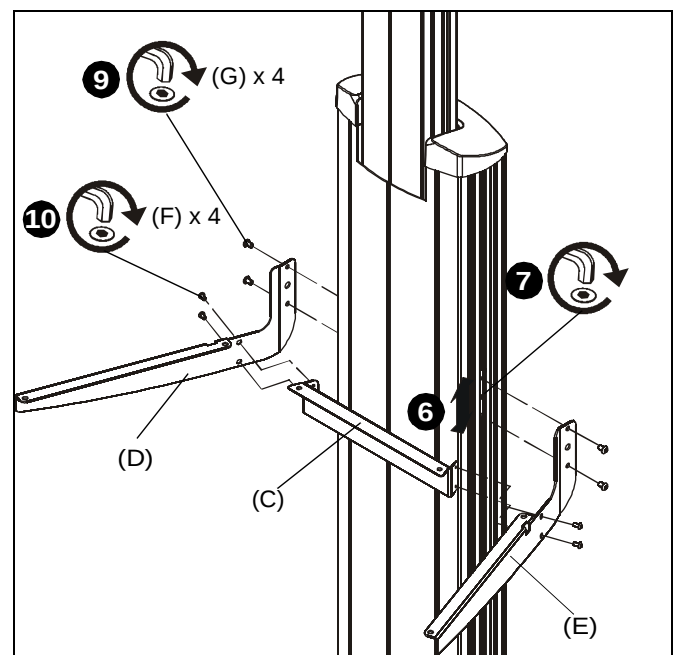

Figure 3
6. Slide accessory bracket (B) up or down in side channel until desired mounting height is reached. (See Figure 3)
7. Tighten set screw (H) to lock bracket in position. (See Figure 3)
9. Use four 1/4-20 x 3/8" button head cap screws (G) to secure right and left shelf supports (D and E) to accessory brackets (B). (See Figure 3)
10. Use four #10-24 x 3/8" button head cap screws (F) to secure right and left shelf supports (D and E) to center support bracket (C). (See Figure 3)